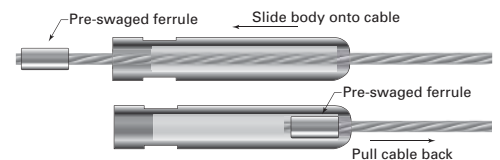

Figure 3
3. Slide the body of the Adjust-a-Body® with Extended Length Hanger Bolt Tensioner onto the bare end of the cable, threaded end first, and pull it the length of the cable until it is stopped by the ferrule already swaged onto the cable. (Figure 3)